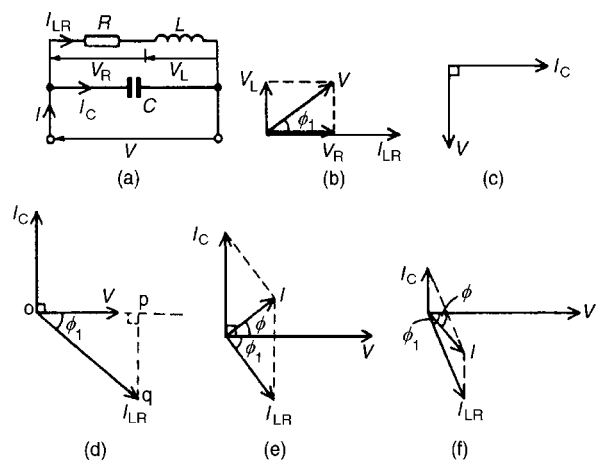

Figure 16.5
In the two branch circuit containing capacitance C in parallel with inductance L and resistance R in series (such as a coil) shown in Fig. 16.5(a), the phasor diagram for the LR branch alone is shown in Fig. 16.5(b) and the phasor diagram for the C branch is shown alone in Fig. 16.5(c). Rotating each and superimposing on one another gives the complete phasor diagram shown in Fig. 16.5(d)
The current I_{LR} of Fig. 16.5(d) may be resolved into horizontal and vertical components. The horizontal component, shown as op is $I_{LR} \cos \phi_1$ and the vertical
- (i) $I_C > I_{LR} \sin \phi_1$ (giving a supply current I leading V by angle ϕ —as shown in Fig. 16.5(e))
- (ii) $I_{LR} \sin \phi > I_C$ (giving I lagging V by angle ϕ —as shown in Fig. 16.5(f))
There are two methods of finding the phasor sum of currents I_{LR} and I_C in Fig. 16.5(e) and (f). These are: (i) by a scaled phasor diagram, or (ii) by resolving each current into their ‘in-phase’ (i.e. horizontal) and ‘quadrature’ (i.e. vertical) components, as demonstrated in problems 6 and 7. With reference to the phasor diagrams of Fig. 16.5:
Resonance occurs in the two branch network containing capacitance C in parallel with inductance L and resistance R in series (see Fig. 16.5(a)) when the quadrature (i.e. vertical) component of current I_{LR} is equal to I_C . At this condition the supply current I is in-phase with the supply voltage V .